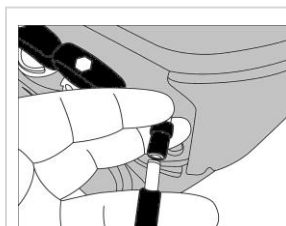

Fig 7
- Connect the control valve to the power adapter (**fig 7**) & connect the adapter to the power supply.